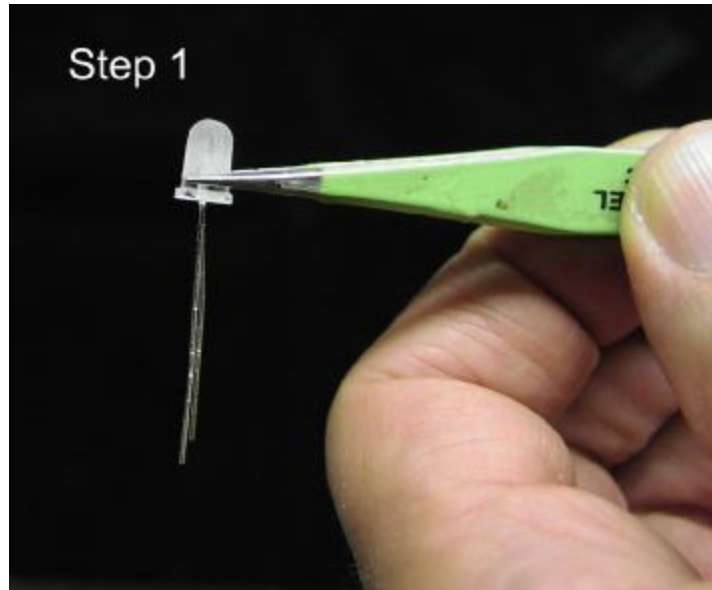

Figure 16
Step 1, hold the LED in your hand so that anode and cathode leads are along a line perpendicular to you see figure 16.